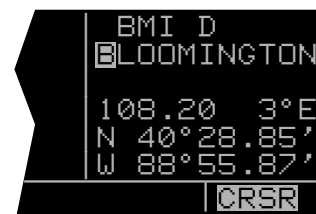

Figure 3-77
3. Rotate the right outer knob clockwise until the cursor is over the first character in the VOR name which is being displayed (figure 3-77).